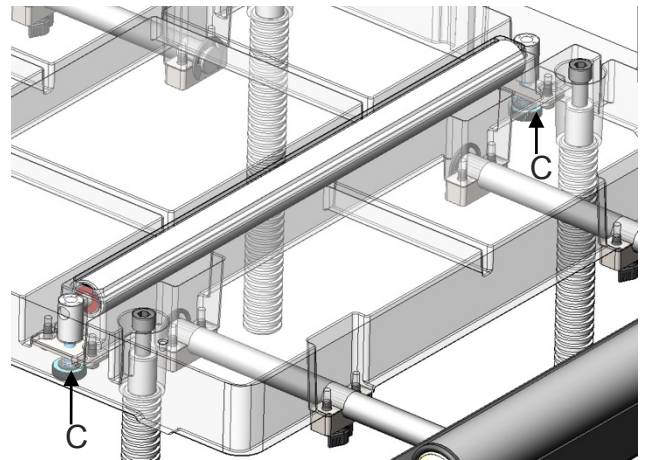

Figure 24: Table Roller Adjustment
3. Move straight edge to the opposite side of bed roller and check to see that the roller just contacts straight edge. If not turn the knob (Fig. 24, C) under the table to raise or lower the bed roller until it just contacts the straight edge.
Lubrication (Fig. 24, 25 & 26)